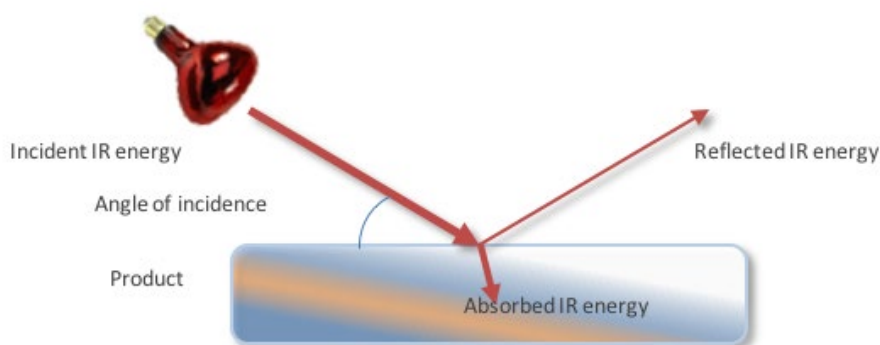

Figure 1. Infra-red absorption into and reflected from a target material
3. the geometric features of the emitter and target material (the angle of incidence) see Figure 1.